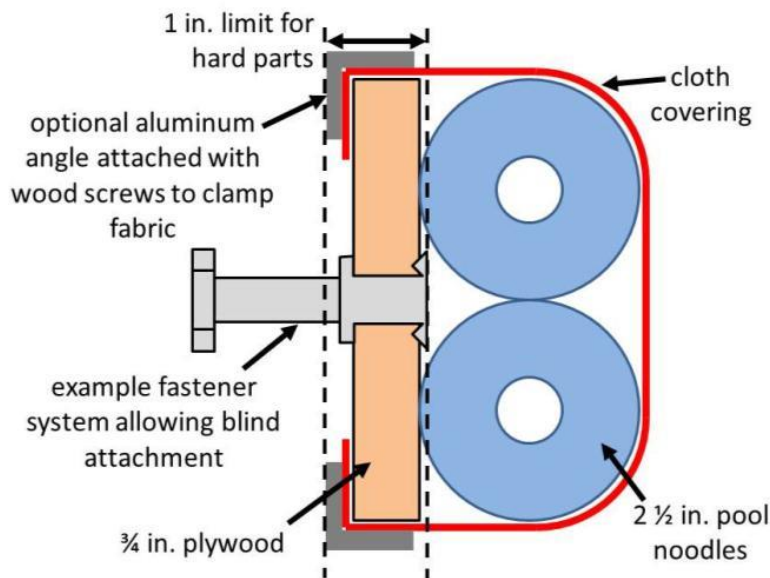
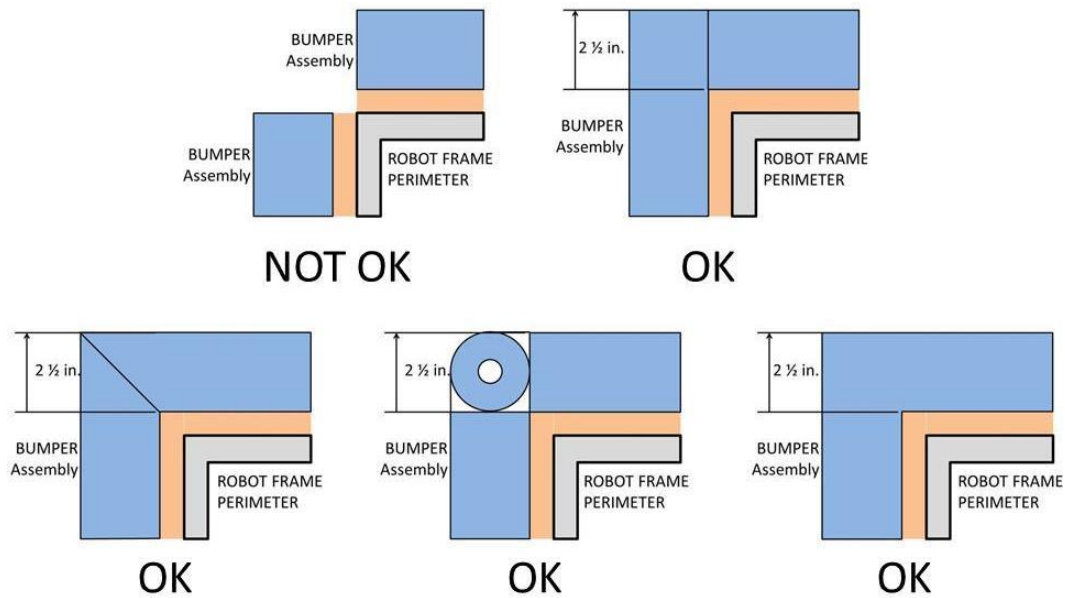

Figure 10-6 BUMPER Vertical Cross Section
Figure 10-7 Soft Parts of BUMPER Corners
R31. BUMPERS must be constructed as follows (see Figure 10-6):
- C. use a stacked pair of approximately 2½ in. (nominal) round, petal, or hex “pool noodles” (solid or hollow) as the BUMPER cushion material (see Figure 10-6). All pool noodles used in a BUMPER set (e.g. Red set of BUMPERS) may not be deformed and must be the same diameter, cross-section, and density (e.g. all round hollow or all hex solid). Cushion material may extend up to 2½ in. (~63 mm) beyond the end of the plywood (see Figure 10-7). To assist in applying the fabric covering, soft fasteners may be used to attach the pool noodles to the wood backing, so long as the cross section in Figure 10-6 is not significantly altered (e.g. tape compressing the pool noodles).
- D. be covered with a rugged, smooth cloth. (multiple layers of cloth and seams are permitted if needed to accommodate R28, provided the cross section in Figure 10-6 is not significantly altered).
- E. optionally use metal angle, as shown in Figure 10-6 or other fasteners (e.g. staples, screws, etc.) to clamp cloth.
R32. Corner joints between BUMPERS must be filled with pool noodle material. Examples of implementation are shown in Figure 10-7.